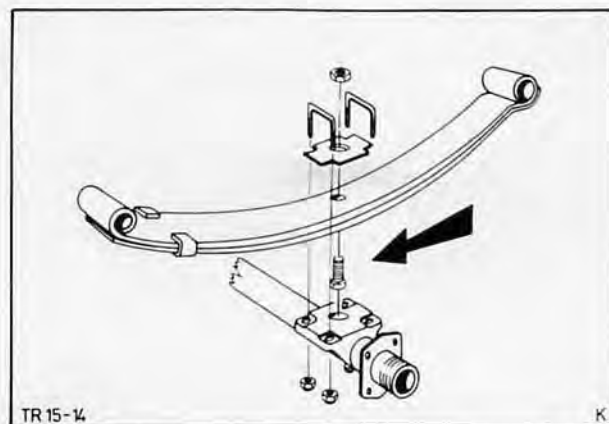

Fig. 20. Centre axle with centering bolts
11. Locate rear axle in position and centre axle with the centering bolts, Fig. 20.